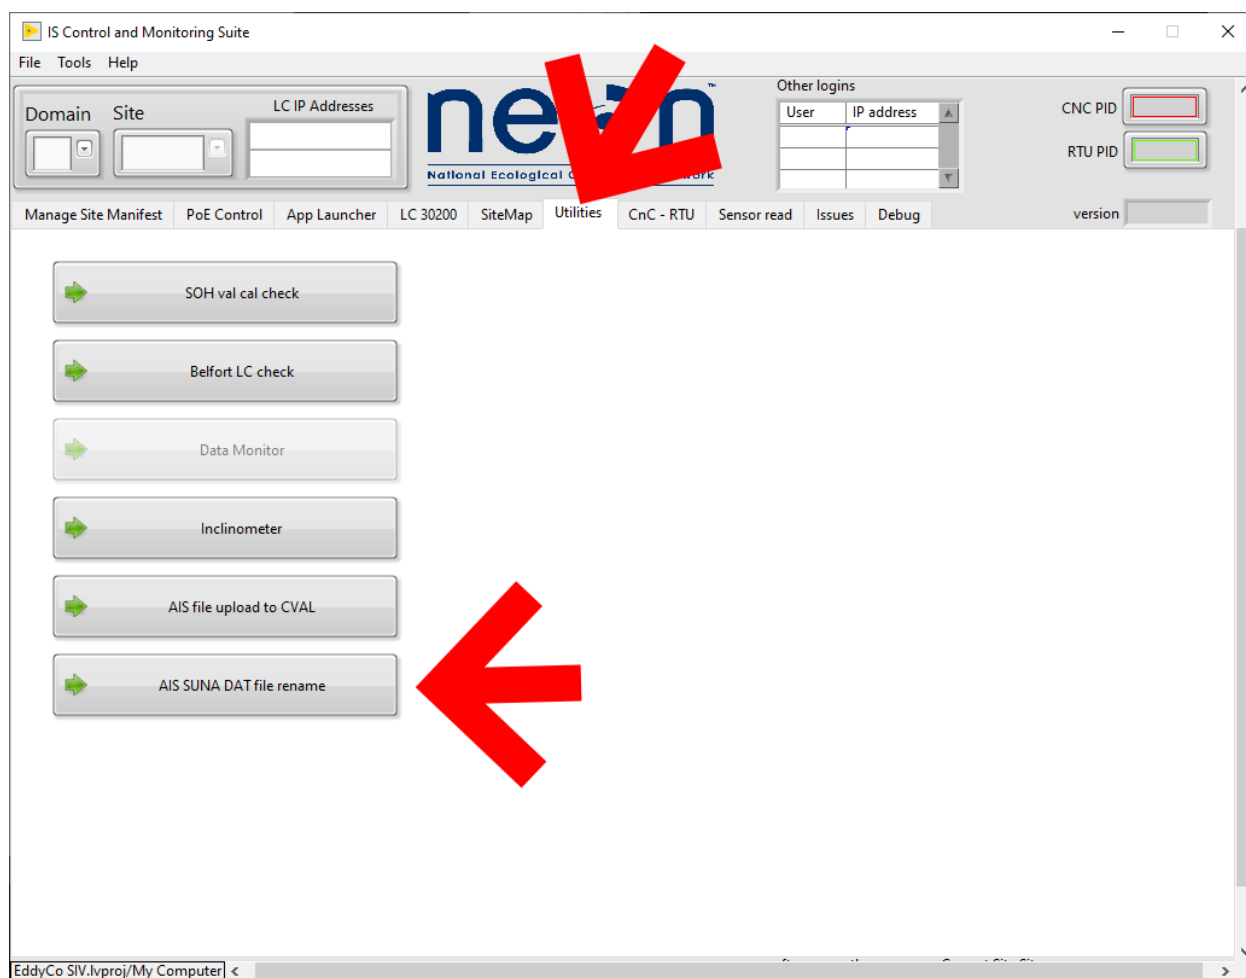

Figure 9. Select the “Utilities” tab and click on “AIS SUNA DAT file rename” button
3. Select the “**Utilities**” tab and click on “**AIS SUNA DAT file rename**” button (Figure 9).